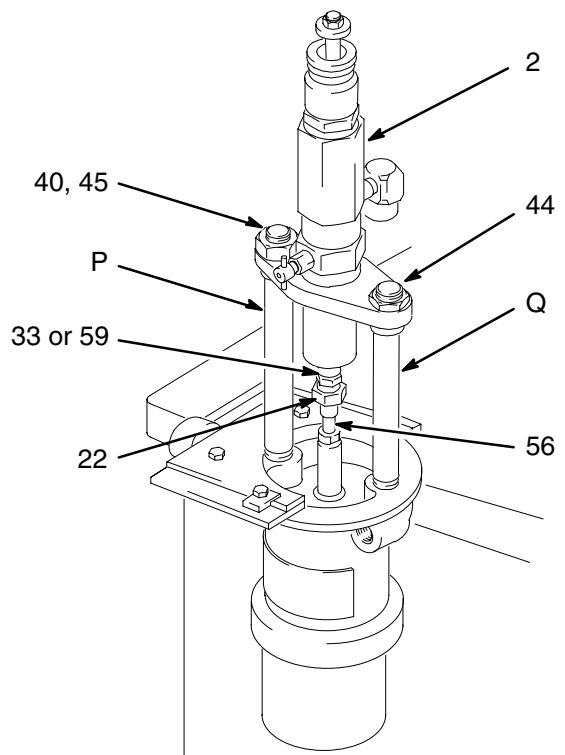

Fig. 6
8. Turn the air motor upside down and place the fluid pump on the mounting tubes (P, Q). Leaving the coupling nut (22) loose, move the pump to align with the rods. Install and tighten the larger locknut (45) and lock in place with the setscrew (40). Being careful not to disturb the alignment, install and tighten the other locknut (44). Tighten the coupling nut securely. See Fig. 6.
10. Operate pump at a minimum air pressure (50 psi, 0.35 MPa, or 3.5 bar). Adjust small mounting tube (Q) locknuts (44) as necessary until pump runs smoothly at 15 psi (0.1 MPa, 1.05 bar).